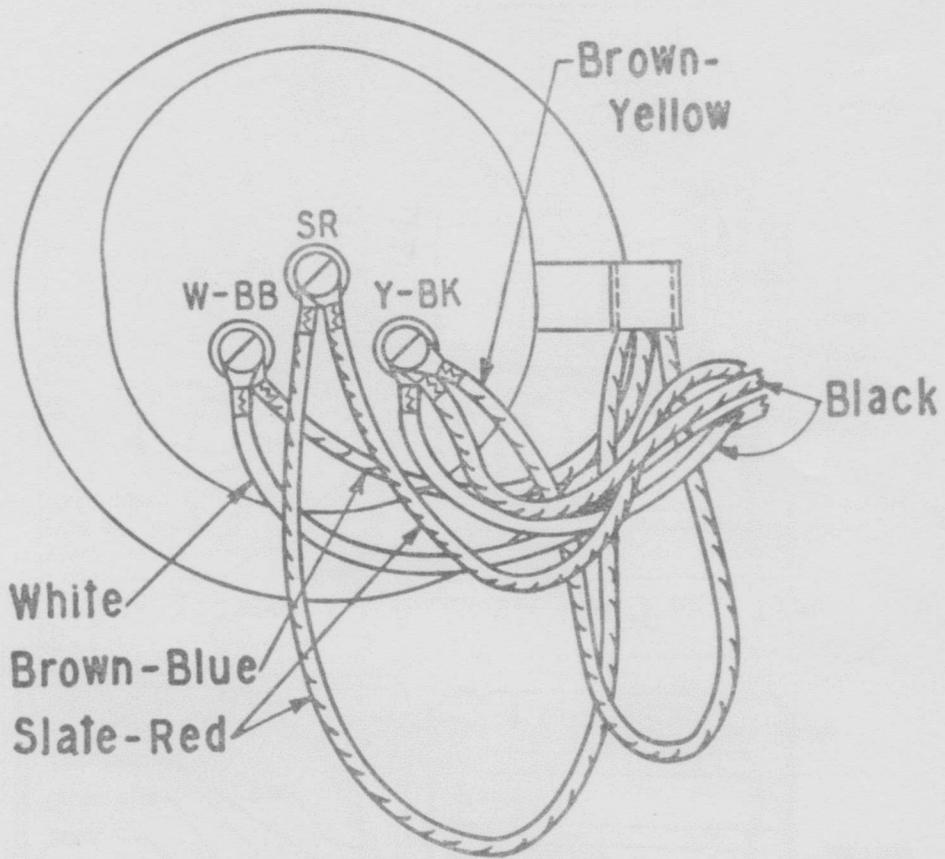

Fig. 1 — 94A Apparatus Blank
- 1.06 This section is reissued to include information for sets equipped with the 6 type dial, to improve the form of presenting the cording information and to make changes of a minor nature in Figs. 1, 2, 4, and 6.
Note 1: Fig. 1 shows the cording of the apparatus blank of 354A sets. The other manual sets, 356A and 357A, have similar cording except for variations in the number and color of the conductors terminating at the apparatus blank of these sets.